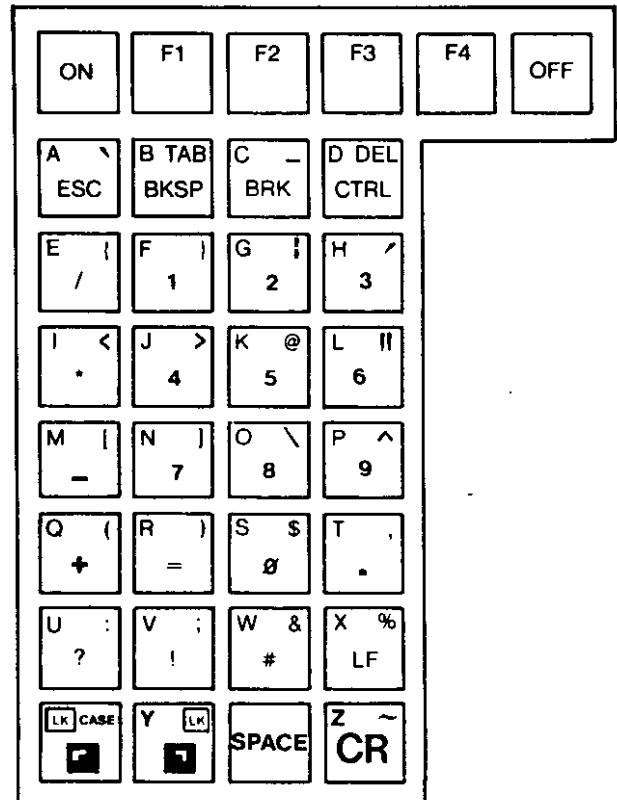

Fig. 2.1 HT/1000 Keypad
The HT/1000 Unit uses a four by eight (32) keyboard. The keyboard uses 28 keys to generate the 128 ASCII Characters. The 4 keys at the top of the unit are used as function keys. The configuration is shown in Fig. 2.1